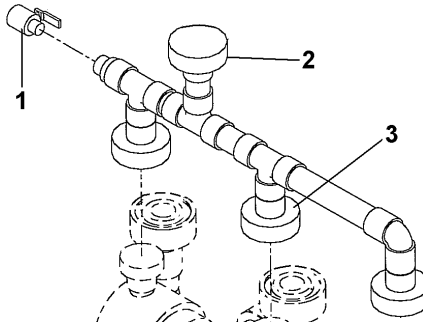

Figure 10. Fast Flush Manifold Piping.
1. Loosen the unions (3) and (2) to remove this piping. Remove drain valve (1) only if necessary. See Figure 10.
1. Refer to Figure 10 for this piping.
4. Install the drain valve (1) if necessary.